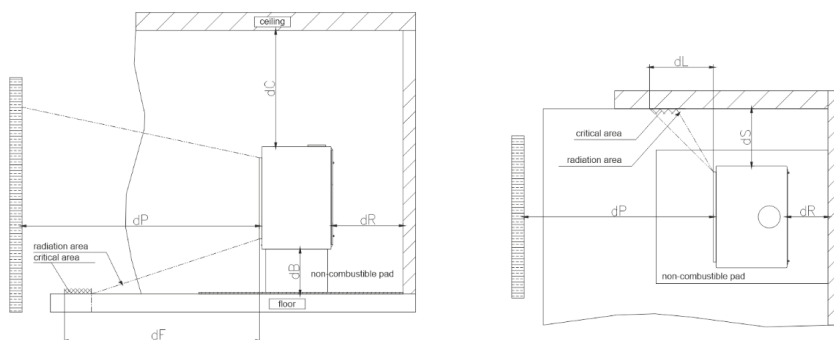

Fig. 2.
1.Top plate (Top plate with vault); 2. Secondary air regulator; 3.Body; 4.Fire door; 5.Small handle (for regulator); 6. Primary air regulator; 7. Niche; 8.Ashtray; 10.Handle; 11.Brick set(Fig.2); 13.Deflector; 14.Flue socket; 15.Safety bar; 16.Grate; 17. Spring.